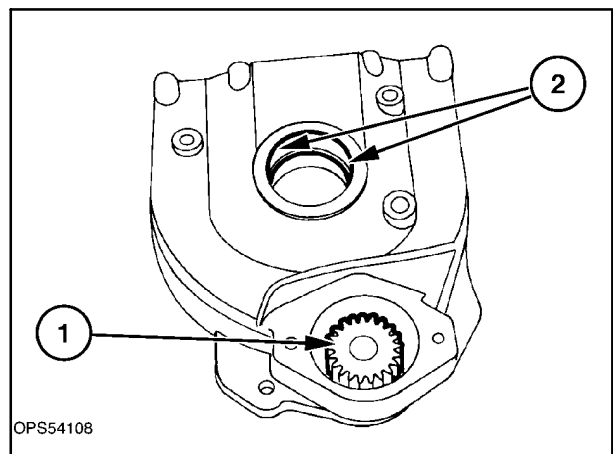

Figure 4-112
6. Put a bead of medium-strength Loctite around the outer surface of the bearing at 1, between the bearing race and gearbox surface, 2, Figure 4-112.